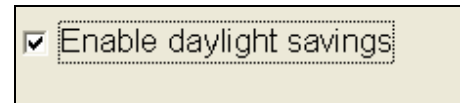

Figure 16.5.6C
2. Next check the **Enable Daylight Savings** box if you want the controller time to change along with daylight savings (Figure 16.5.6C).